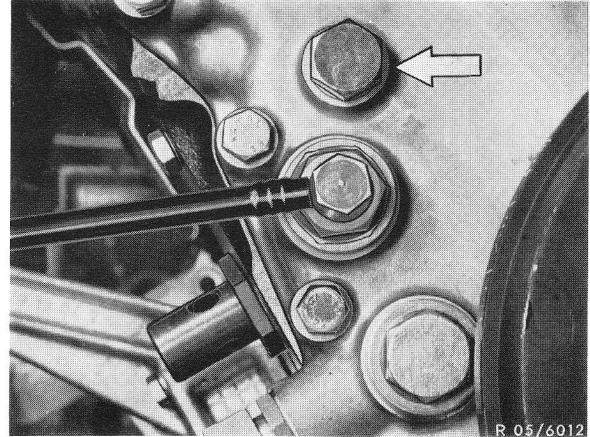

Fig. 1
- 8 Unscrew closing plug (refer to arrow in Fig. 1).